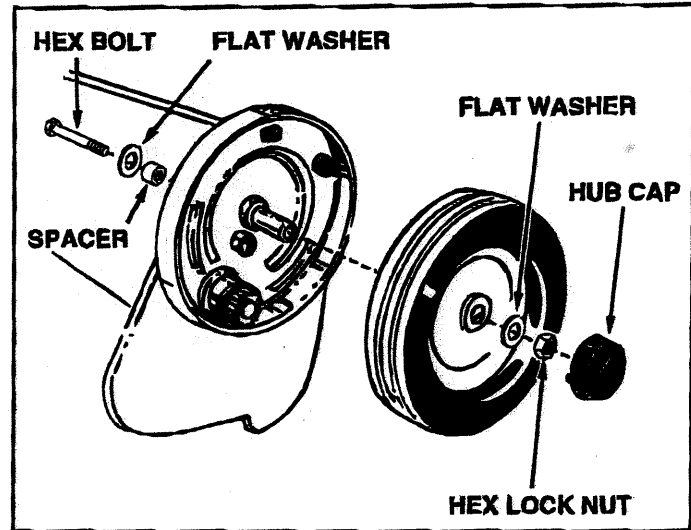

FIGURE 8
- Every two years, remove the wheels and clean the gears found inside the wheel housing. After cleaning, lubricate the gears with an even coat of light grease. To remove the wheel, pop off the hub cap and remove the lock nut and flat washer. See figure 8.